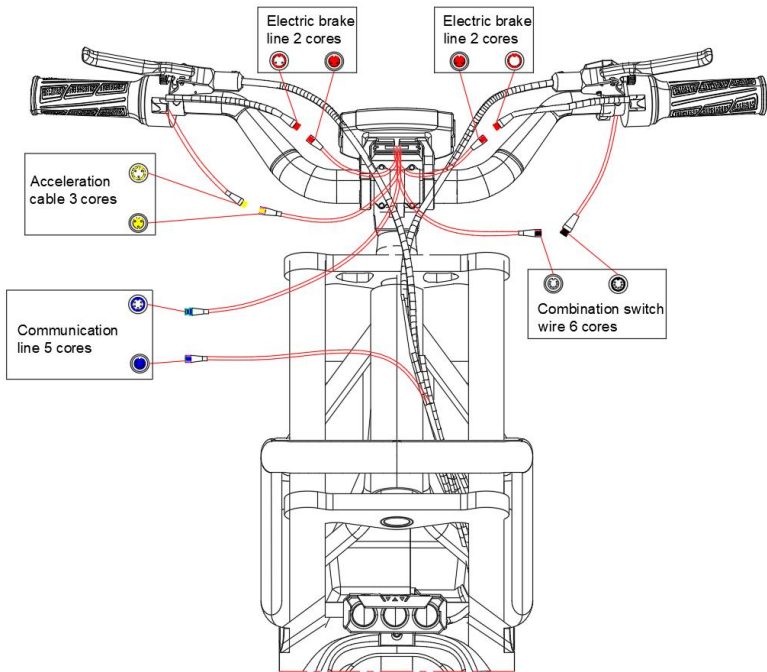

Figure 2-1-11
2.10 Schematic diagram of display circuit docking (Note: the corresponding limit of each waterproof head cannot be installed incorrectly to avoid hardware damage) Figure 2-1-11.